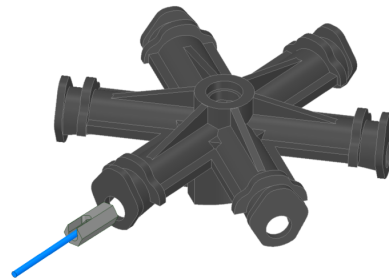

Figure 5 Inserting toggle into upper hub
4. Grasp the toggle end of one of the support cords and attach it to upper hub of the central support as shown in Figure 5. After inserting the toggle through the hole twist the toggle into a vertical position so that it locks in place.